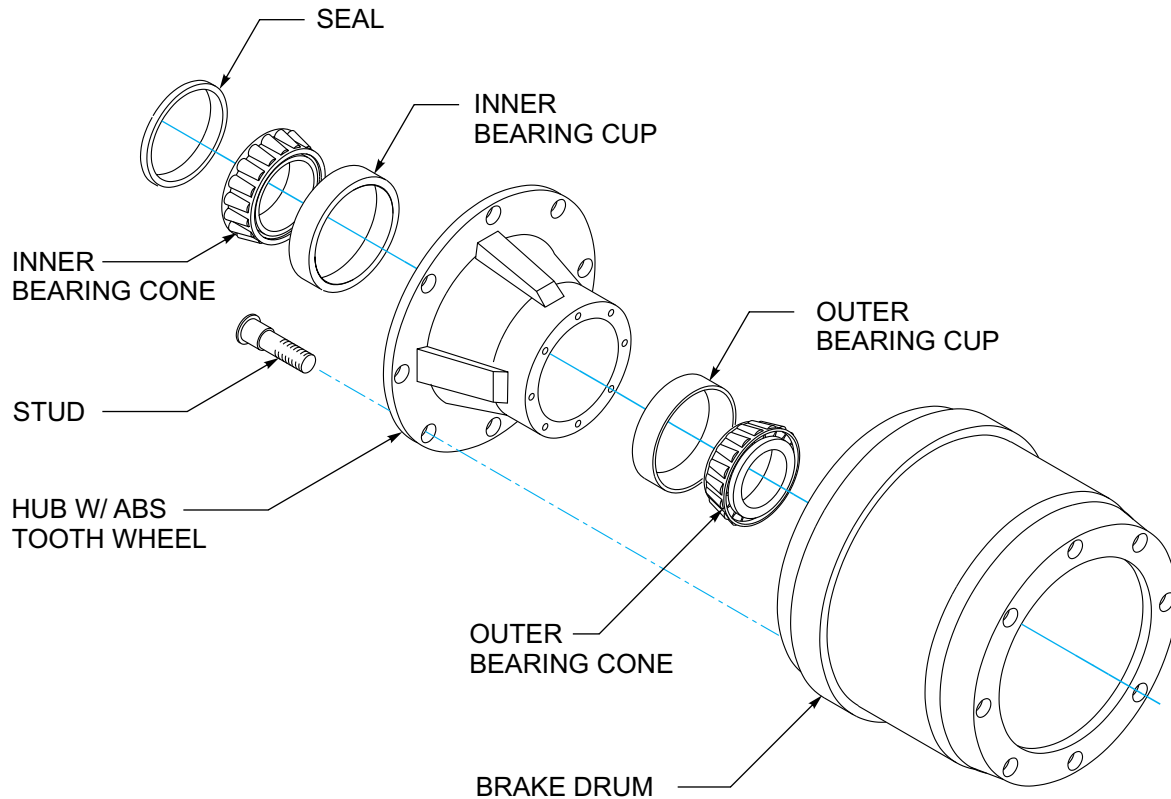

Figure 4-13: Outboard Hub and Drum
4. Replace the hub and drum as follows: (**See Figure 4-13.**)
- a. Remove the brake drum (**See Figure 4-13.**) It may be necessary to release the slack adjuster.